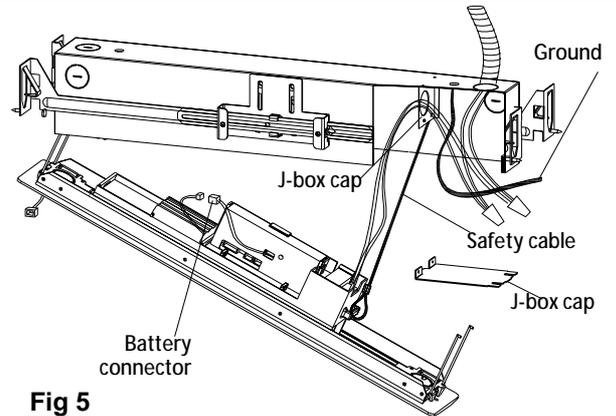

Fig 5
2. Separate trim plate, press one side spring to take out the module, connect battery connectors.(see Fig 5)
3. Hang safety cable to the module clip.(see Fig 5)
4. Disassembly J-box cap, Route the AC line and proper wires into the J-Box. (see Fig 5)
5. Make proper electrical connections. If using 120VAC, connect black and white leads to the building utility. If using 277VAC, connect orange and white leads to the building utility. Cap off unused wire.(see Fig 5)